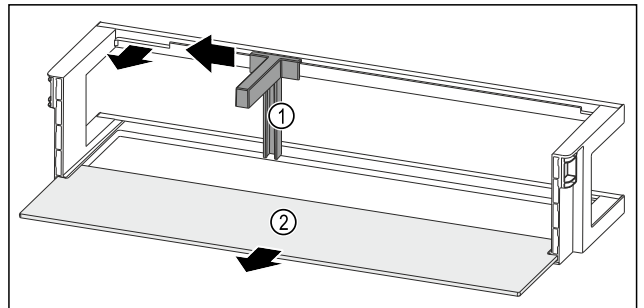

Fig. 214 Door rack with bottle holder and shelf
- ▶ Slide the bottle holder Fig. 214 (1) to the side as far as the recess.
- ▶ Remove the bottle holder Fig. 214 (1).
- ▶ Remove the shelf Fig. 214 (2).